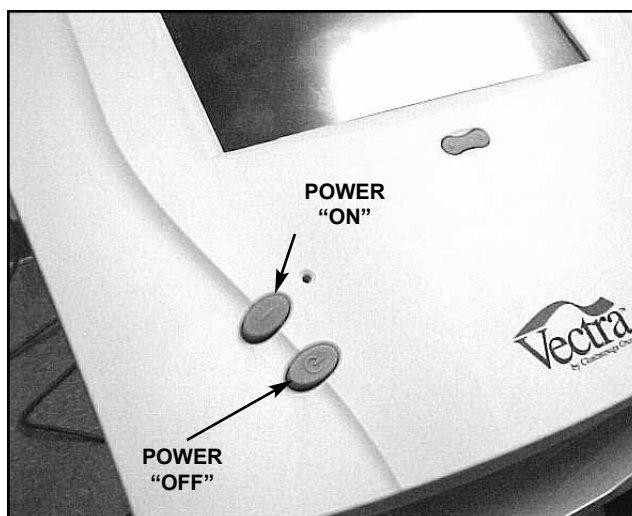

FIGURE 5.35
6. Turn unit Off using main power button. See Figure 5.35.